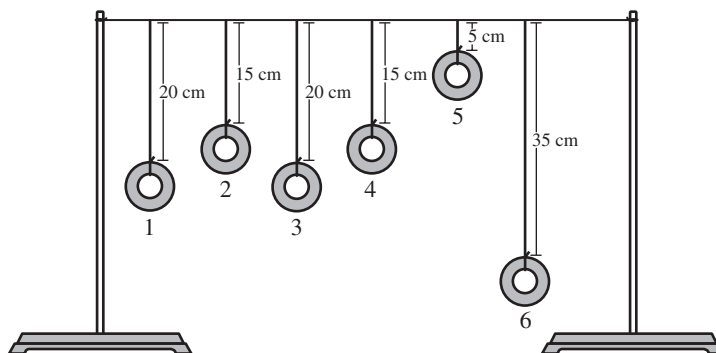

Figure 1.
2. Tie a piece of fishing line to the top of a support stand. Extend the fishing line to the other support stand and tie it so the line is horizontal (see Figure 1).
4. Tie a piece of fishing line to each washer and hang them from the horizontal line at the lengths listed below (see Figure 1).